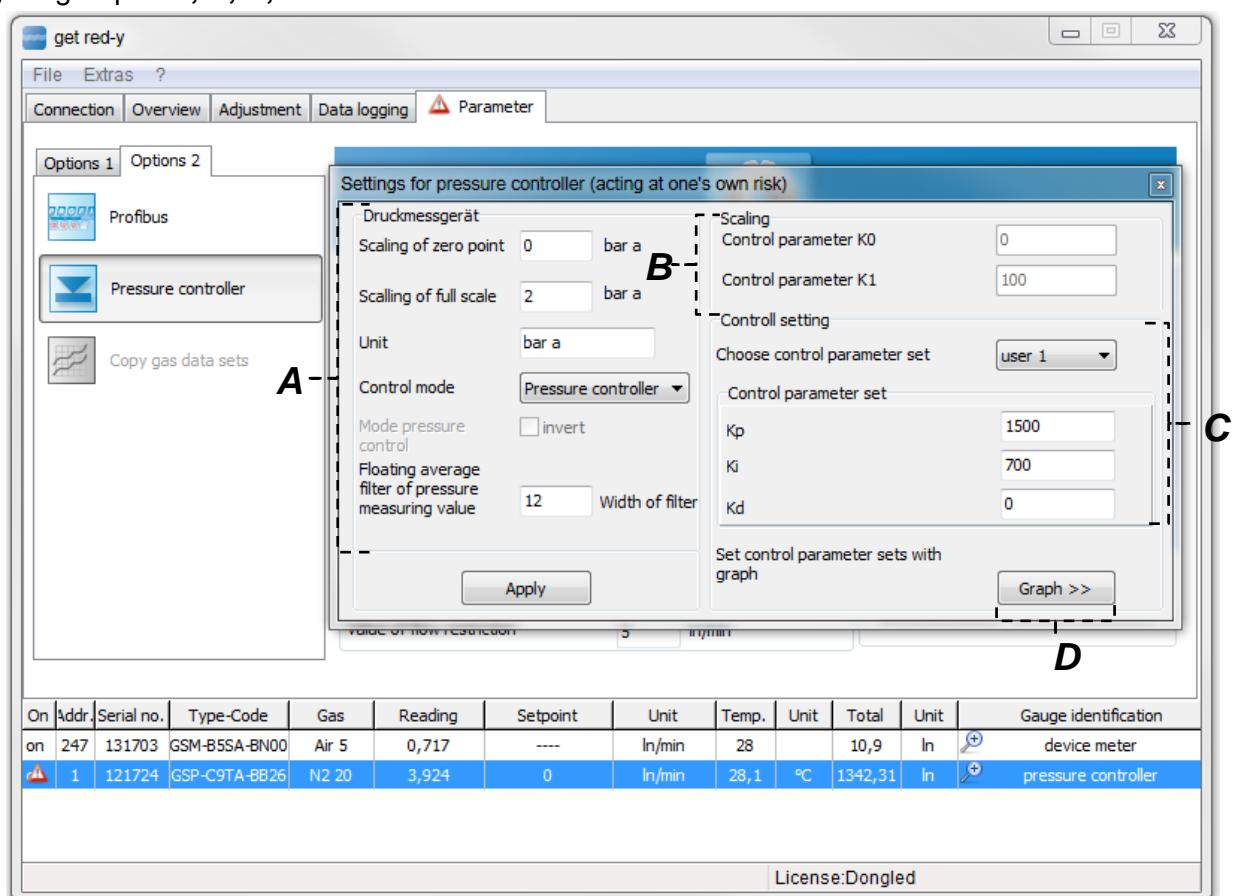

Figure 27: Enhanced settings for control parameter records
- E. **Settings:** You can set the most important parameters for pressure regulation here. Clicking the [Settings>>] button to go to a new window (See Figure 27, [Pressure control setting]).